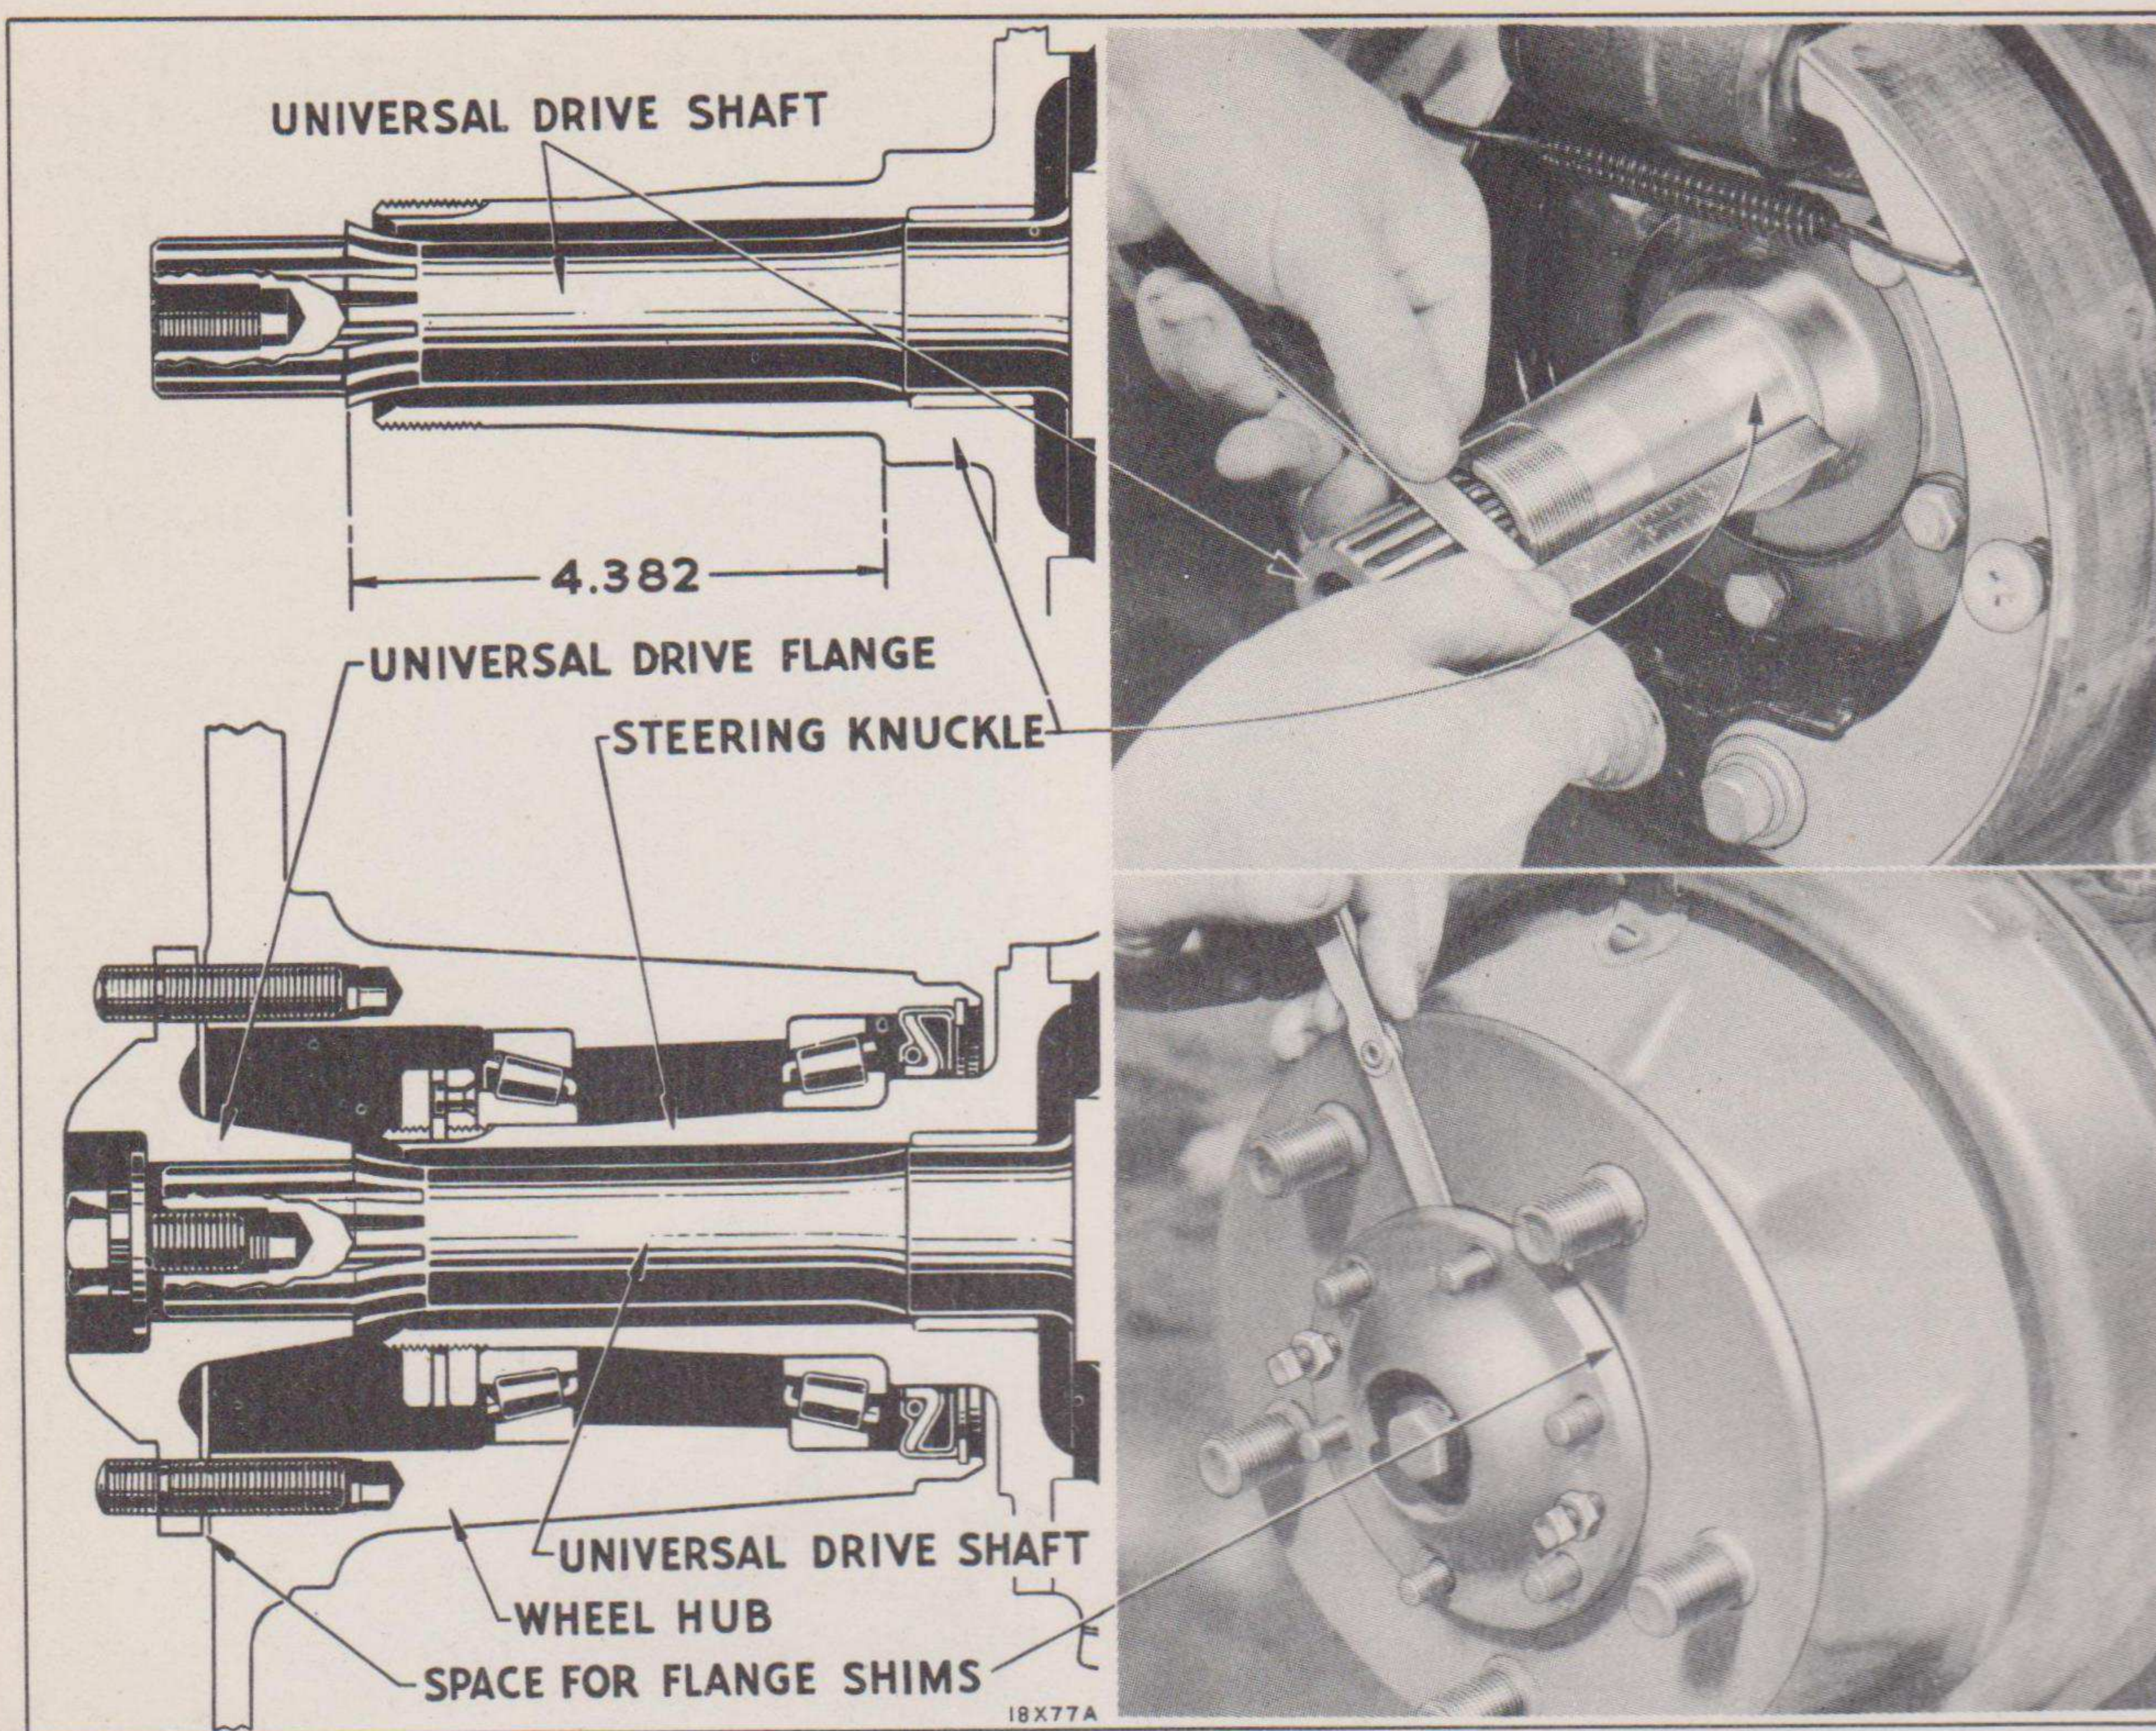

Fig. 27—Front Axle Shaft End-Play Adjustment (Bendix-Weiss only)
With an accurate steel rule or depth gauge, measure the distance from the steering knuckle flange inner bearing shoulder to the flat shoulders of the splines at the outer end of the axle shaft as shown in Fig. 27. This measurement should be 4.382" or a full $4\frac{3}{8}$ ".
- (f) With the drive assembly pushed all the way in, measure the distance from the steering knuckle flange inner bearing shoulder to the flat shoulders of the splines at the outer end of the drive shaft. See Fig. 27. If the measurement is not 4.382" or a full $4\frac{3}{8}$ ", it can be corrected by removing or installing the necessary amount of shims between the inner end of the drive shaft and the thrust button.
- (d) With the flange and drive assembly forced inward as far as it will go, measure with a feeler gauge, the space between the drive shaft flange and the wheel hub as shown in Fig. 27.